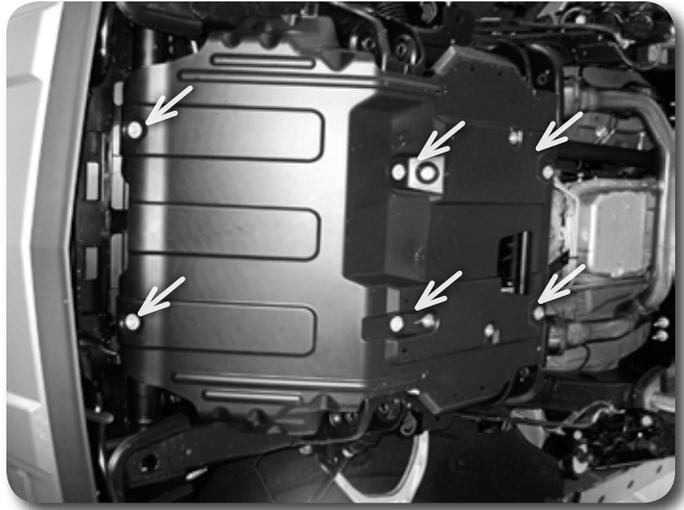

Figure 2
9. Remove the splash guard from the vehicle. **Figure 2**.